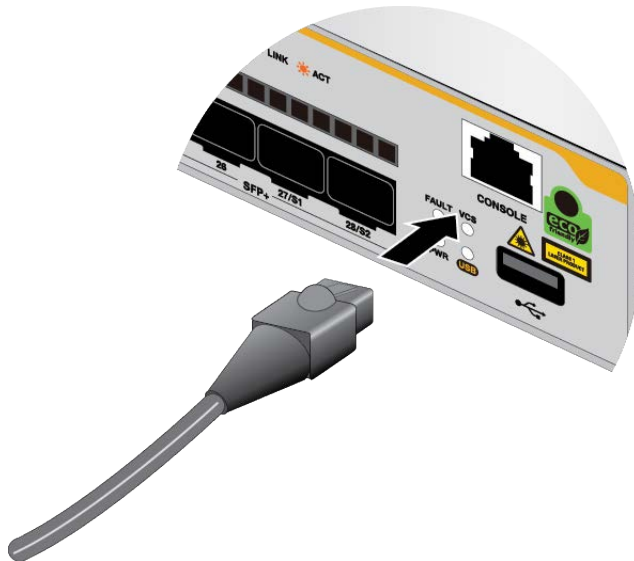

Figure 67. Connecting a Management Cable to the Console RS-232 Port
1. Connect the RJ-45 end of a management cable to the Console RS-232 port on the management panel. Refer to Figure 67.